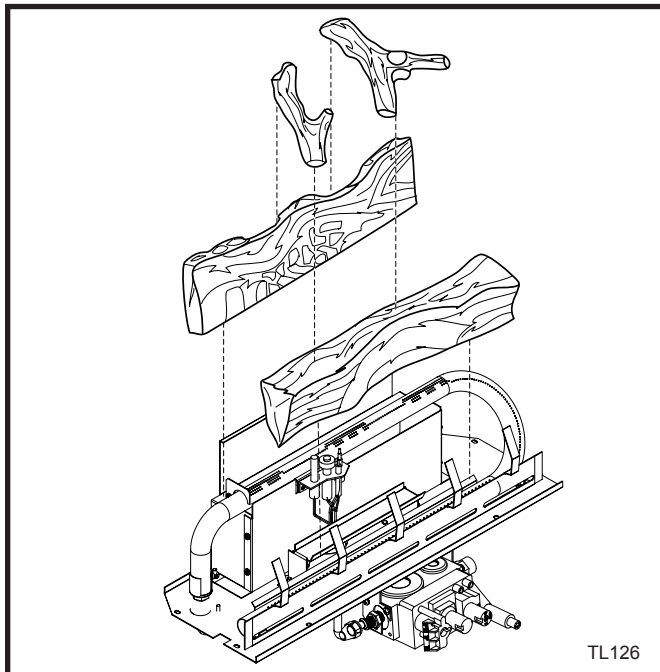

Fig. 40 33RDVDSN log placement.
5. Place the top logs onto the locator notches. Ensure that the logs are secure. (Fig. 40)